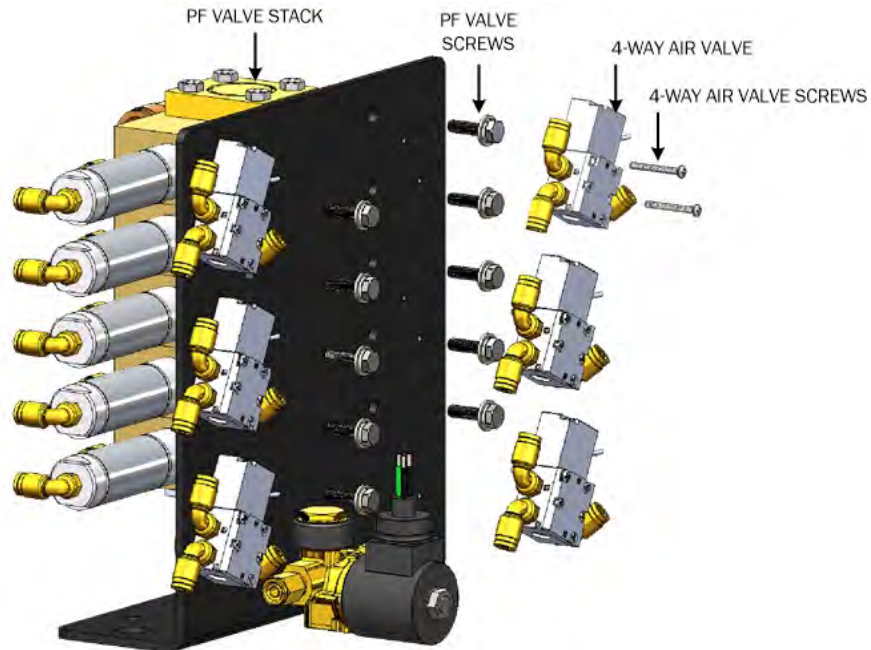

Figure 97. PF Valve Block Mounting Screw Access
See paragraph 4.11.2, 4-Way Air Valve R&R (page 123) and Figure 97.
- M. Install all 4-way air valves removed for access to PF valve mounting screws. See paragraph 4.11.2, 4-Way Air Valve R&R (page 123) and Figure 97.